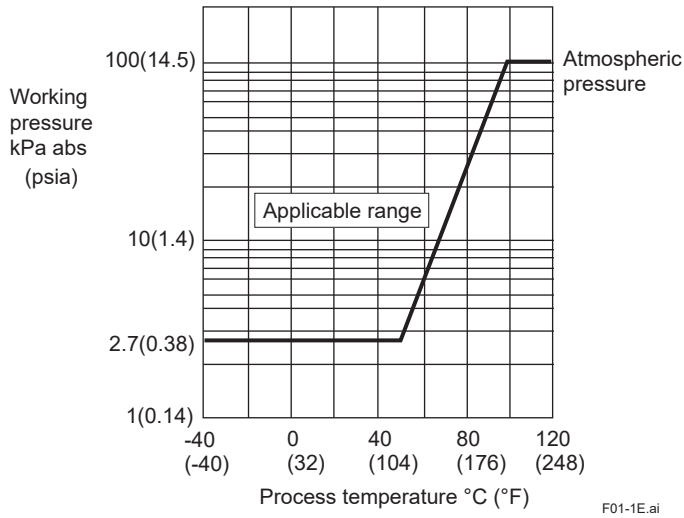

Figure 1-1. Working Pressure and Process Temperature
- Minimum Pressure Limit: See graph below Figure 1-1